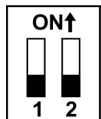

Figure 6-60 Safe Torque Off (STO) | MAXPOS 50/5 – JP3 OFF; STO activated
- 3) Set **both** jumper switches 1 and 2 to “OFF” (→Figure 6-60).